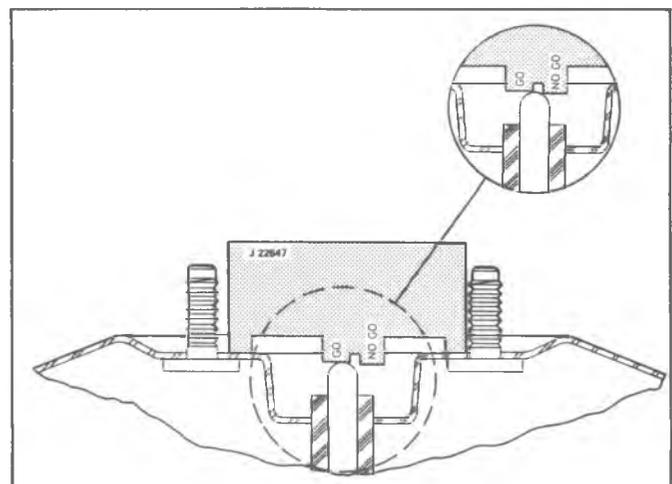

Fig. 15B--Gauging Piston Rod
4. Place Gauge J-22647 over the piston rod in a position which will allow the gauge to be slipped to the left or right without contacting the studs (fig. 15B).